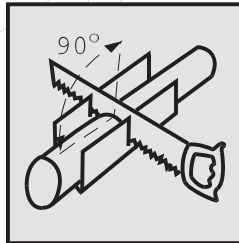

FIG 2
- Ensure the pipe is cut square (figure 2)